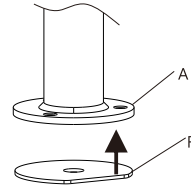

Figure7
2. Attach Soft Pad (F) to the Grommet Base Plate(L), see Figure 7.